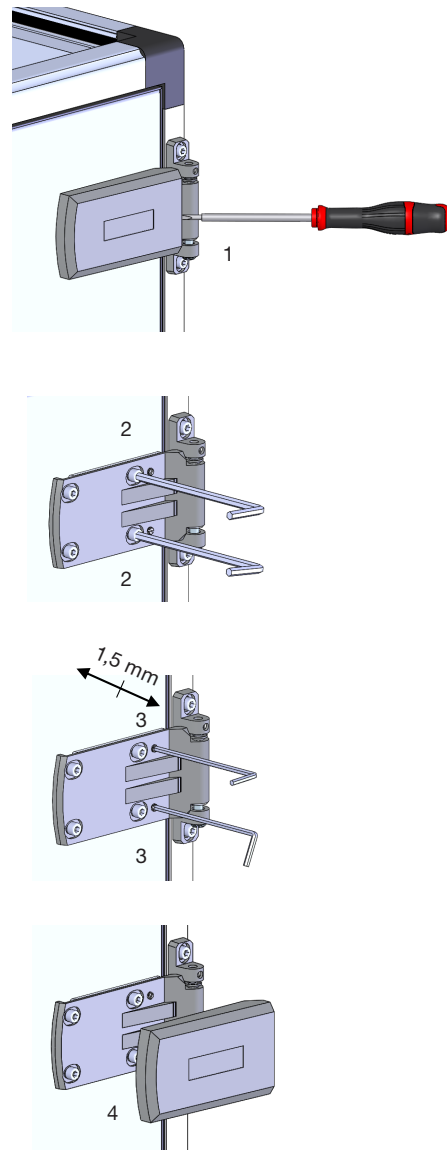

Figure 43
3.23.1 Door adjustment by width (Figure 43)
In case the sealing is not fitted between door panel and housing with the optimum pressure to ensure tightness, proceed as shown in Figure 43.